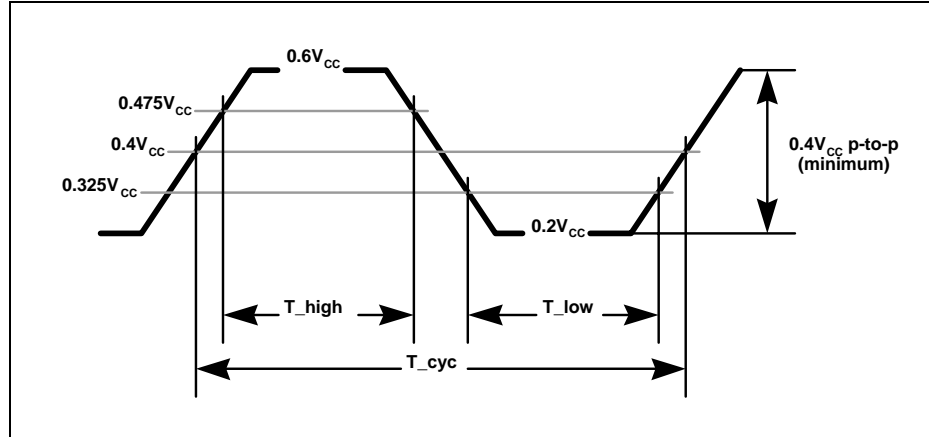

Figure 24. PCI/CardBus Clock Waveform
The 82559ER uses the PCI Clock signal directly. Figure 24 shows the clock waveform and required measurement points for the PCI Clock signal. Table 22 summarizes the PCI Clock specifications.
2. Rise and fall times are specified in terms of the edge rate measured in V/ns. This slew rate is met across the minimum peak-to-peak portion of the clock waveform as shown in Figure 24.